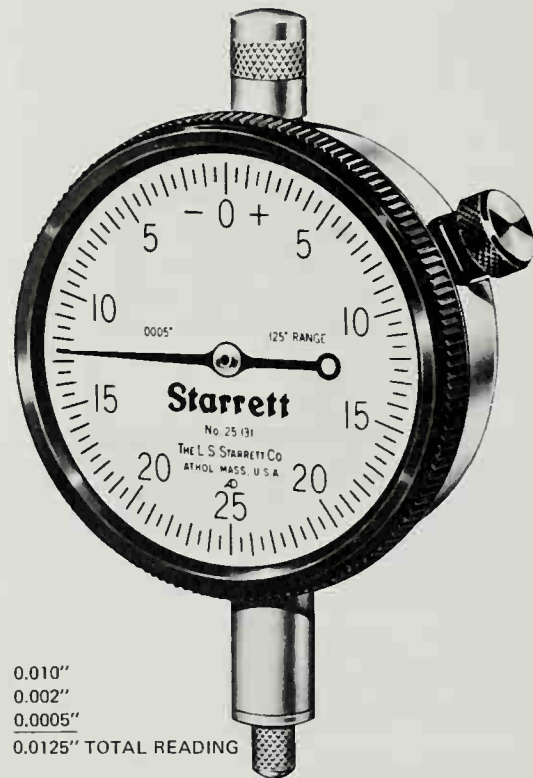

Figure 4-26. An English-system micrometer with a reading of 0.0125". (L.S. Starrett Co.)
The English system dial indicator works and is used in the same way as its metric system counterpart. English system dial indicators are usually classified as either thousandths (0.001") or half-thousandths (0.005") indicators. This information is marked on the face of the dial, as shown in Figure 4-26. The dial may be of the balanced type, in which the figures read both to the right and to the left of zero, or it may be of the continuous reading type, in which the figures read from zero only in a clockwise direction.
The English system dial indicator shown in Figure 4-26 has its scale divided into large lines that represent .005"
To read the dial indicator shown in Figure 4-26, count the last full number the needle has passed and multiply by one one-hundredths, resulting in a reading of .010. (Assume the needle has moved counterclockwise.) Then add the number of thousandths (2) multiplied by one one-thousandth (.002), and finally, add the number of half-thousandths (1) multiplied by one half-thousandth (.0005). The total reading is: